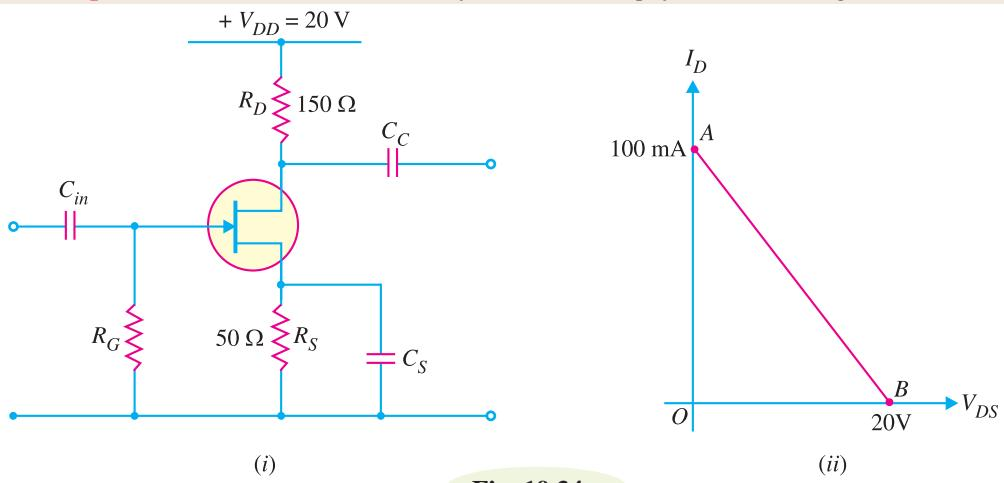

Fig. 19.34
**Example 19.22.** Draw the d.c. load line for the JFET amplifier shown in Fig. 19.34 (i).
This locates point  $A$  ( $OA = 100 \text{ mA}$ ) of the d.c. load line. Joining  $A$  and  $B$ , d.c. load line  $AB$  is constructed as shown in Fig. 19.34 (ii).